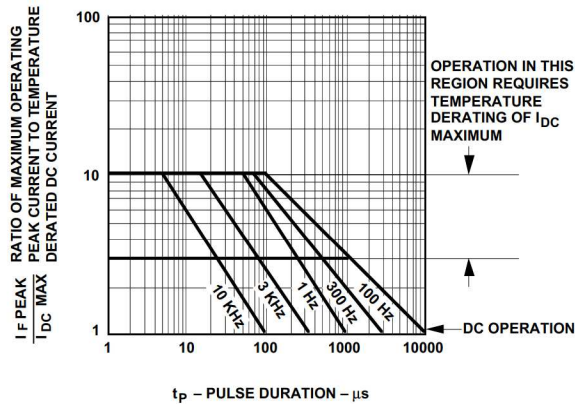

Figure 10. Maximum Tolerable Peak Current vs. Pulse Duration - HER.
3. See Figure 10 to establish pulsed conditions.